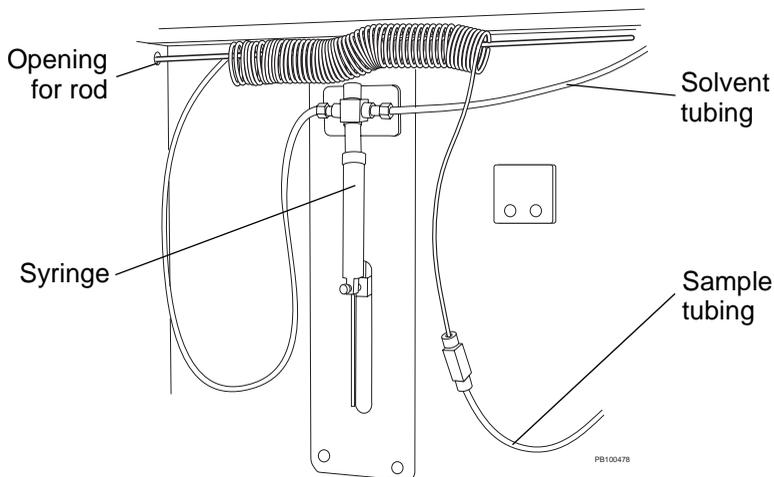

Figure 3-4 Installing Coiled Tubing
1. Install the rod and coiled tubing above the syringe by inserting the ends of the rod in the openings as shown in Figure 3-4. (The ends of the rod are identical).